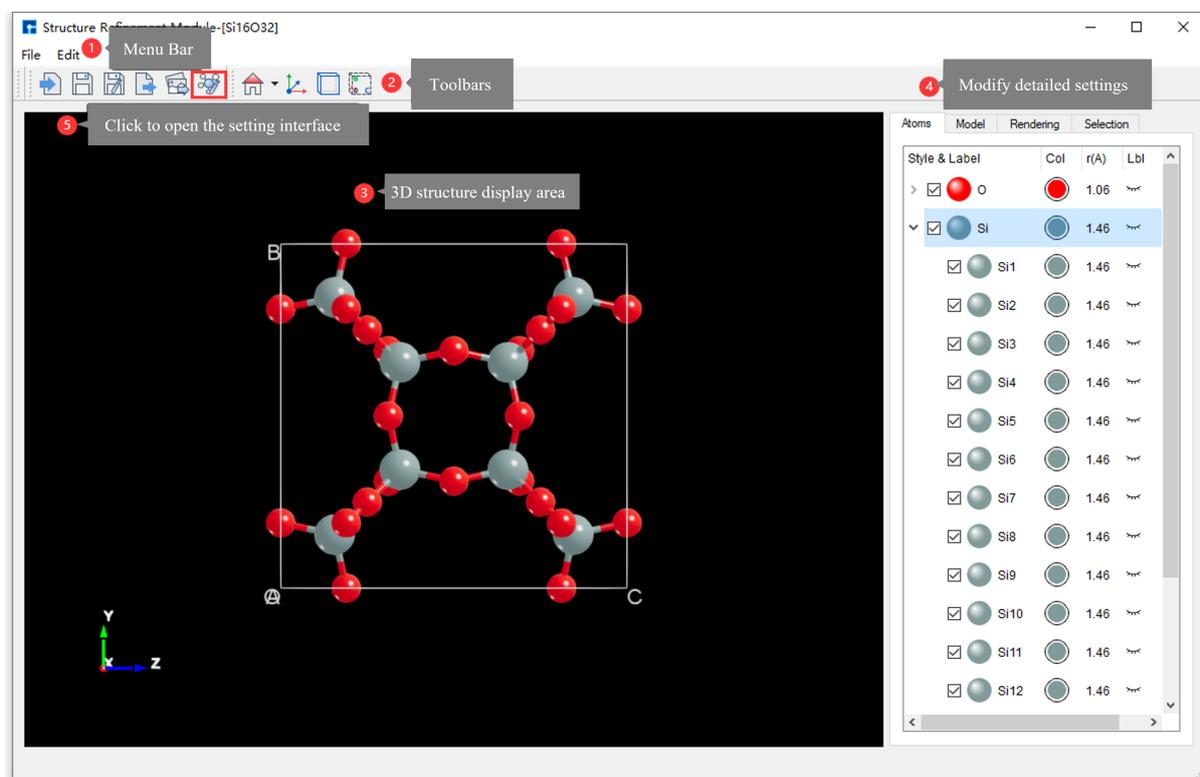

fig. 6.1: Atomic Structure Refinement Module Graphical User Interface
- – The *.dsxml* format is exclusive to the Device Studio atomic structure refinement module. To continue editing a structure file in a subsequent session, it is recommended to save it as a *.dsxml* file via the **Atomic Structure Refinement Module** interface, such as in fig. 6.1, by clicking *File* → *Save As*.
The graphical user interface (GUI) of the Structure Refinement Module (SRM) is shown in fig. 6.1.